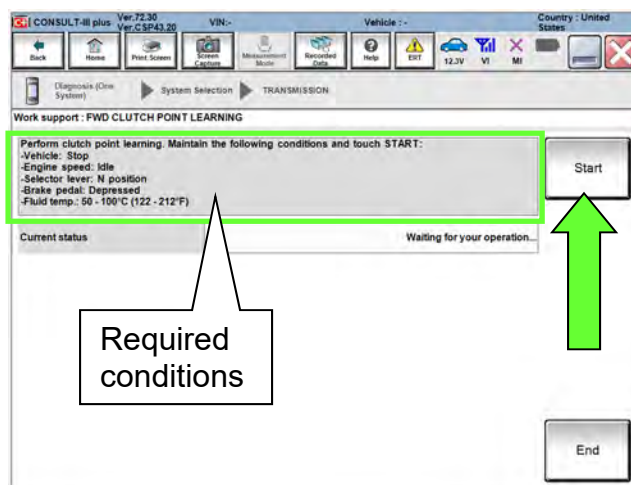

Figure 166
- Confirm that all of the required conditions indicated in Figure 166 are being met.
164. While maintaining all conditions shown in Figure 166 and the “Current status” indicates “EXECUTING”, shift the CVT into **D** and then wait until the Current status indicates “COMPLETED”.